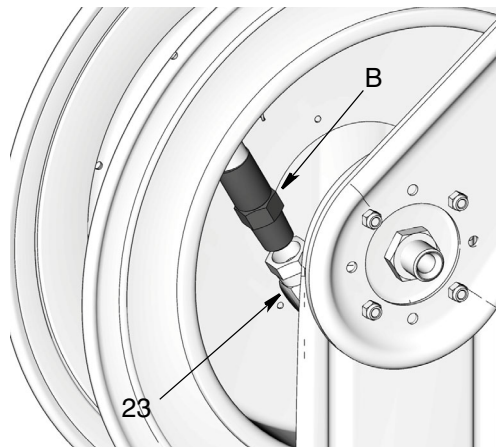

FIG. 9
7. Tighten bolt (18).
8. Align pedestal assembly (26) to base (24). Install 2 screws (27). Tighten and torque screws to 20-30 ft. lbs (89 - 133 N.m).
9. Align guide arm (30) and hose guide (31). Install and tighten screws (52) and nuts (53).
10. Install large nut (32). Tighten and torque nut to 85-105 ft. lbs (378 - 467 N.m).
11. Connect hose end to the hose reel swivel fitting (23) (FIG. 9). Tighten securely.